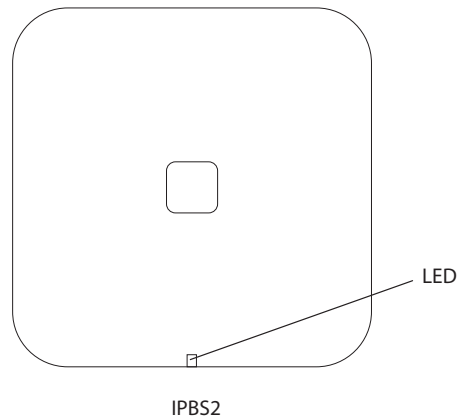
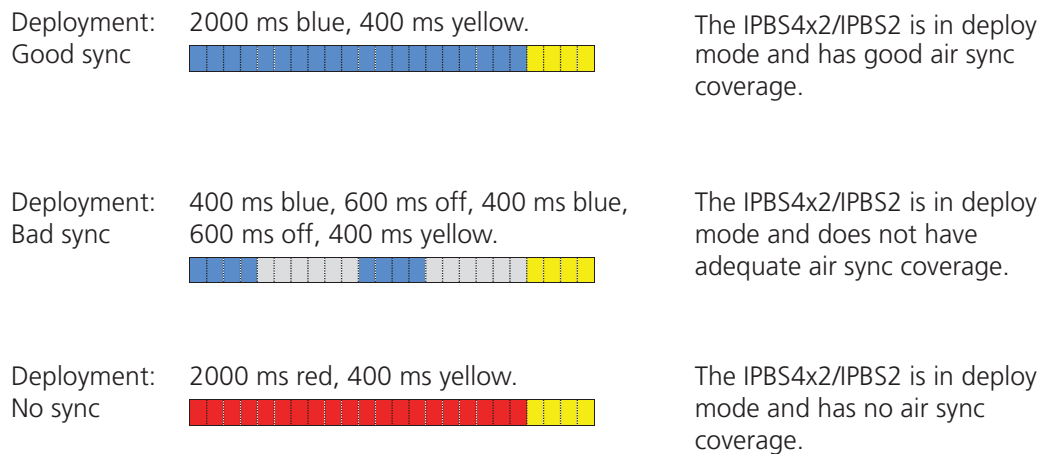

Figure 7. LED on IPBS4x2/IPBS2
Figure 8. LED deployment indications on IPBS4x2/IPBS2
**For IPBS4x2/IPBS2:** You can also check the synchronization by looking at the LED on the base station IPBS4x2/IPBS2, see figure 7 on page 13. For a description of LED deployment indications, see the diagram in figure 8 on page 13. When indicating no sync (LED flashing red and yellow) it might take some additional time (10 to 30 seconds) to regain synchronization when entering the sync coverage again.